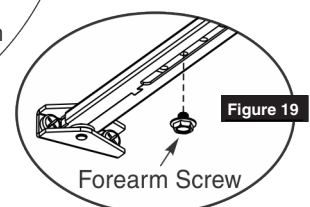

Figure 19
4. While holding arm in position, secure rod to adjusting tube with forearm screw. (Figure 19)